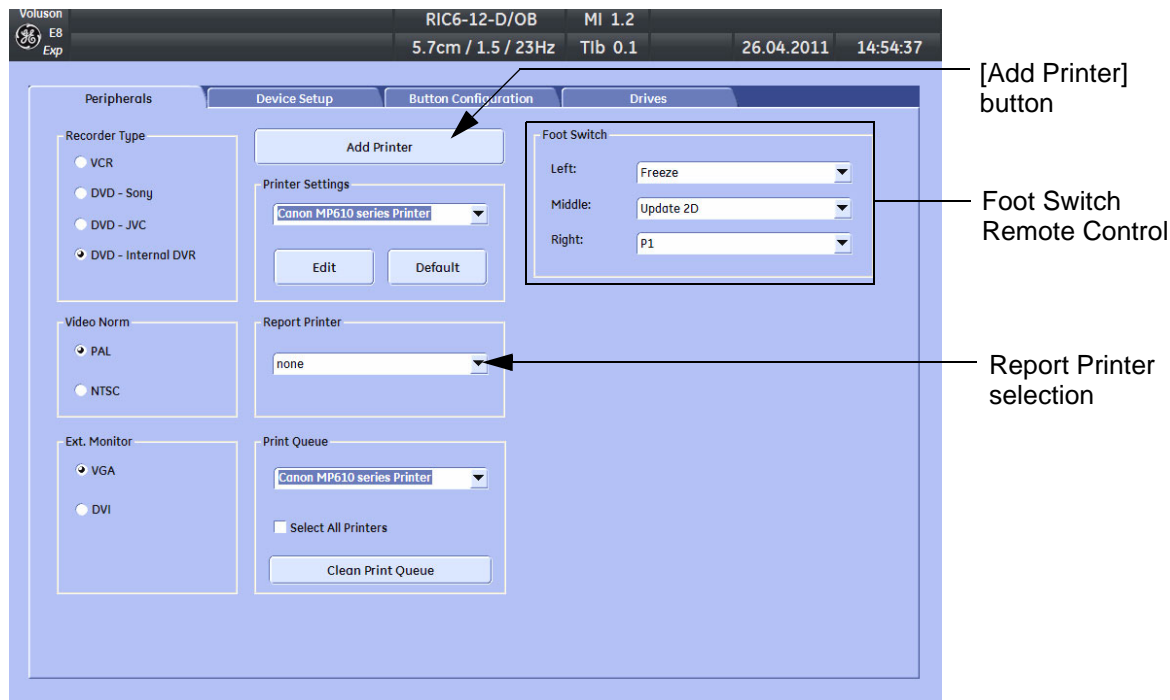

Figure 3-32 System Setup - Connectivity - PERIPHERALS page
- 4.) Click the **ADD PRINTER** button (see: Figure 3-32 above).